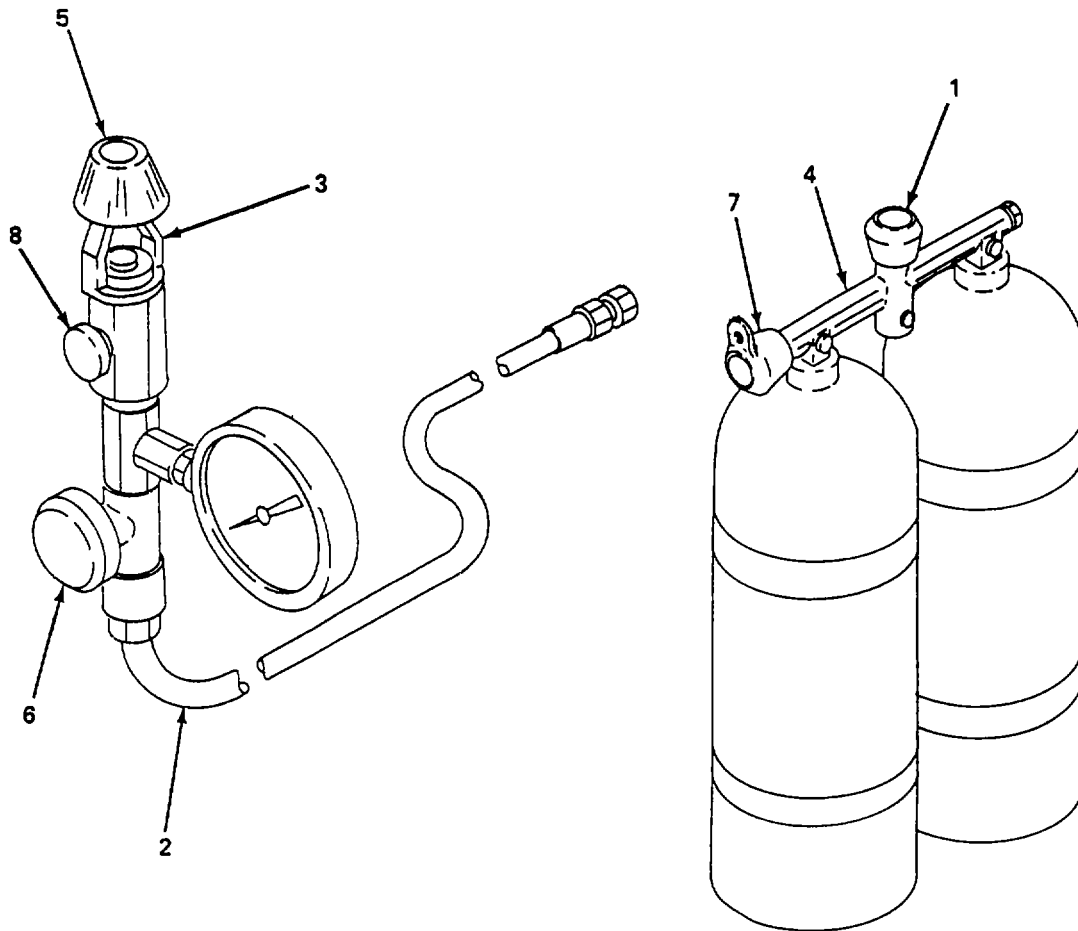

Figure 2-6. Servicing SCUBA cylinders.
- (12) Check for final stage safety operating by listening for air discharging from the safety valve. Also note blow off pressure on pressure gauges (11).
c. Servicing SCUBA Cylinders. (figure 2-6)
- (1) Review warning page as instructed in para. 1-11.
- (2) Refer to FM 20-11-1 and check air purity standards.
- (3) Start the air compressor (para. a.).